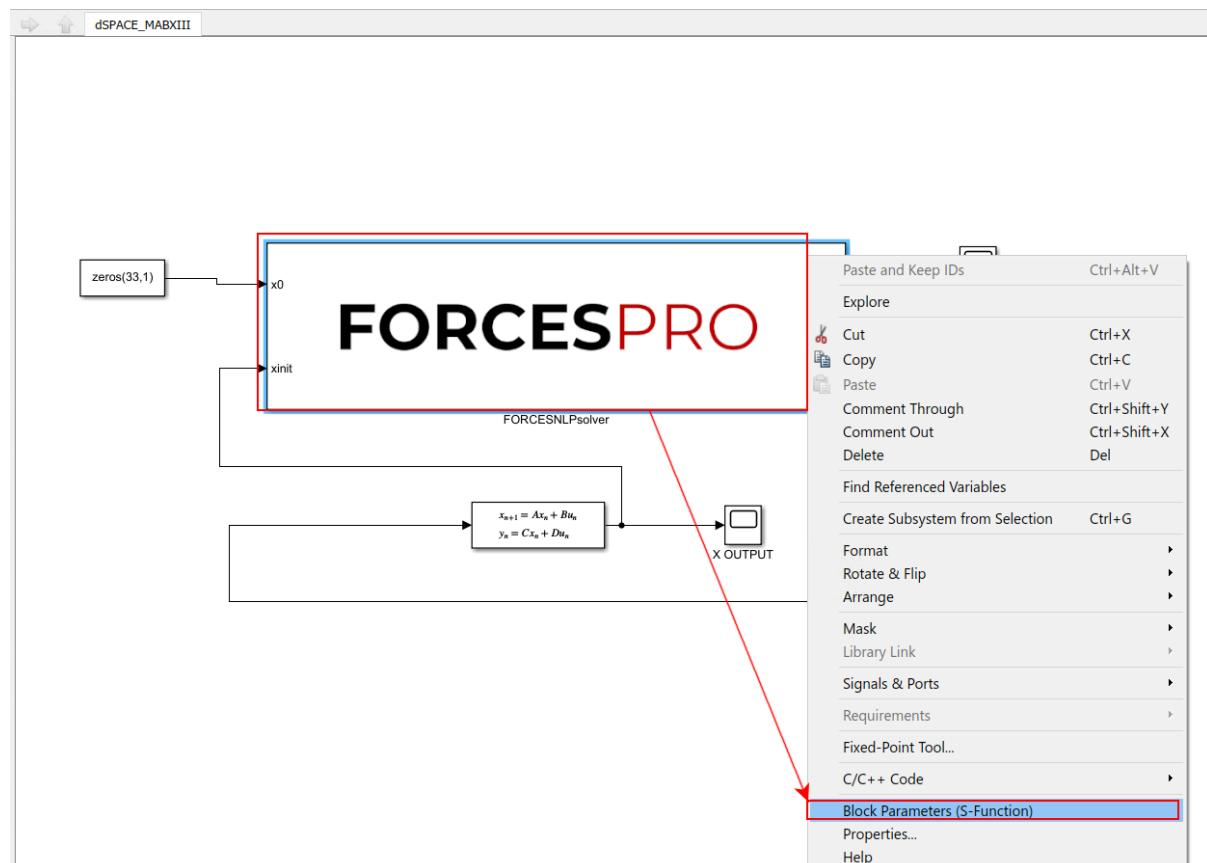

Figure 13.69: Open the FORCESPRO block's parameters.
- 13) Access the FORCESPRO block's parameters (see Figure 13.69).